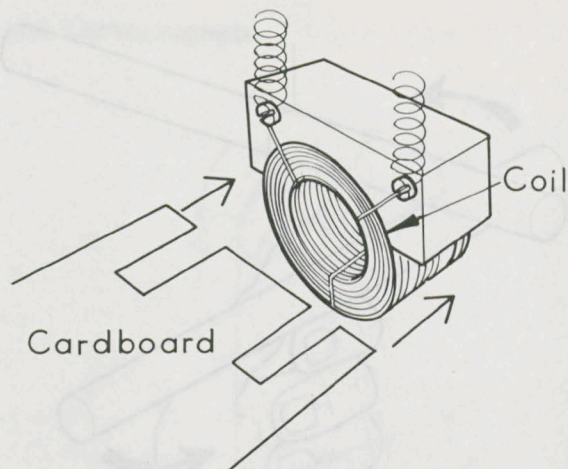

Figure 11.
6. Insert a cardboard sheet through the center of the coil as shown in Figure 11. Adjust the current again to about 1.5 A. Sprinkle iron filings over the sheet. Tap the sheet, and sketch the pattern produced.